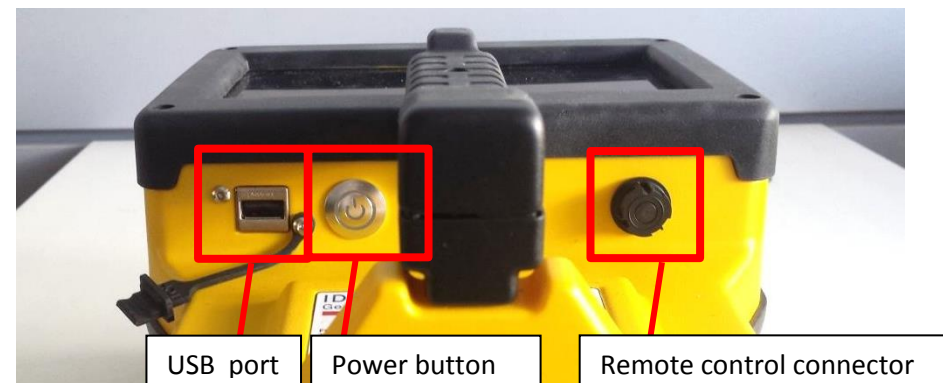
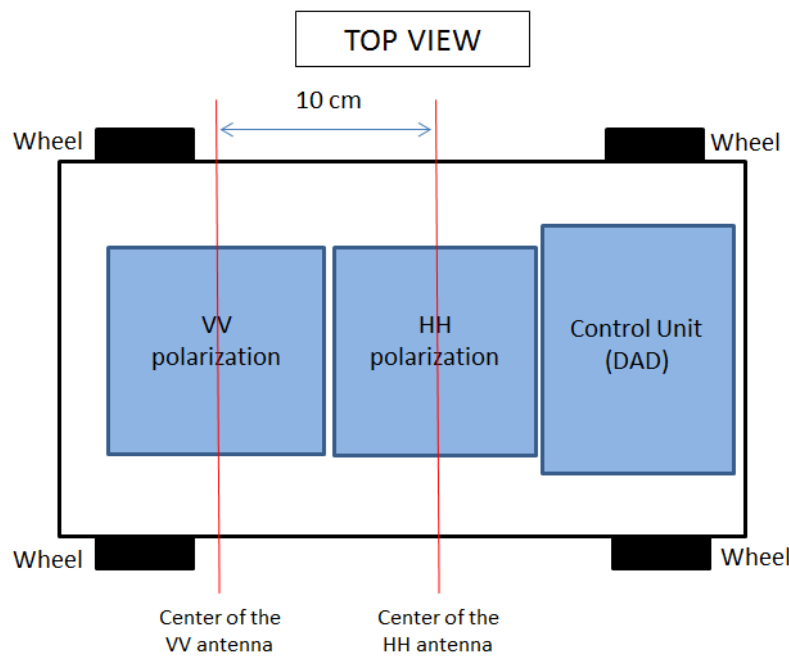
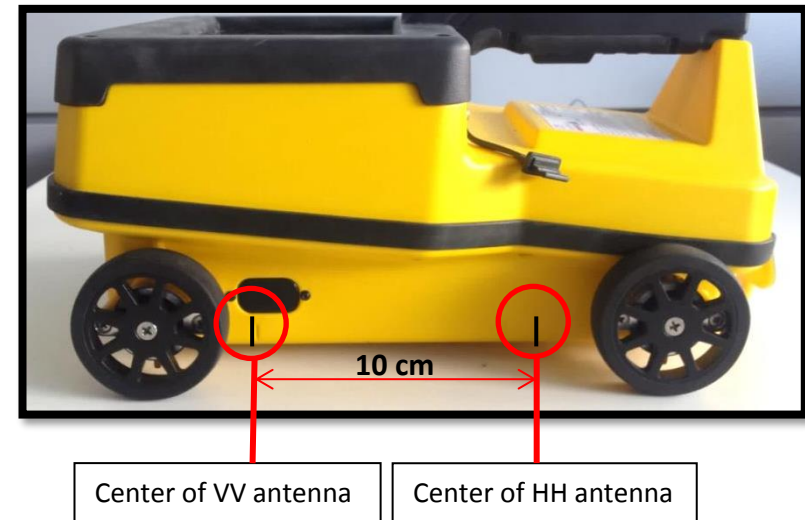

Fig. 4 – Detail of the USB port, Power button and remote control connector interfaces
Fig. 5– C-Thru Internal sketch
Fig. 6 –VV and HH center of position
- USB port for radar data transfer and software updating, Fig. 4.
- Power button to switch on/off the system, Fig. 4.
- Remote control connector interfaces, Fig. 4.
Dual polarization permits detection on both first and second levels of rebars. (Fig. 5). The offset between the VV and HH antenna center, is 10 cm (see Fig. 5 and Fig. 6).
The Radar Control Unit (DAD) is lodged and integrated within the main system body (Fig. 5). No Cables have to be connected on it. Under the handle, there is a power button to turn it on/off (Fig. 4).